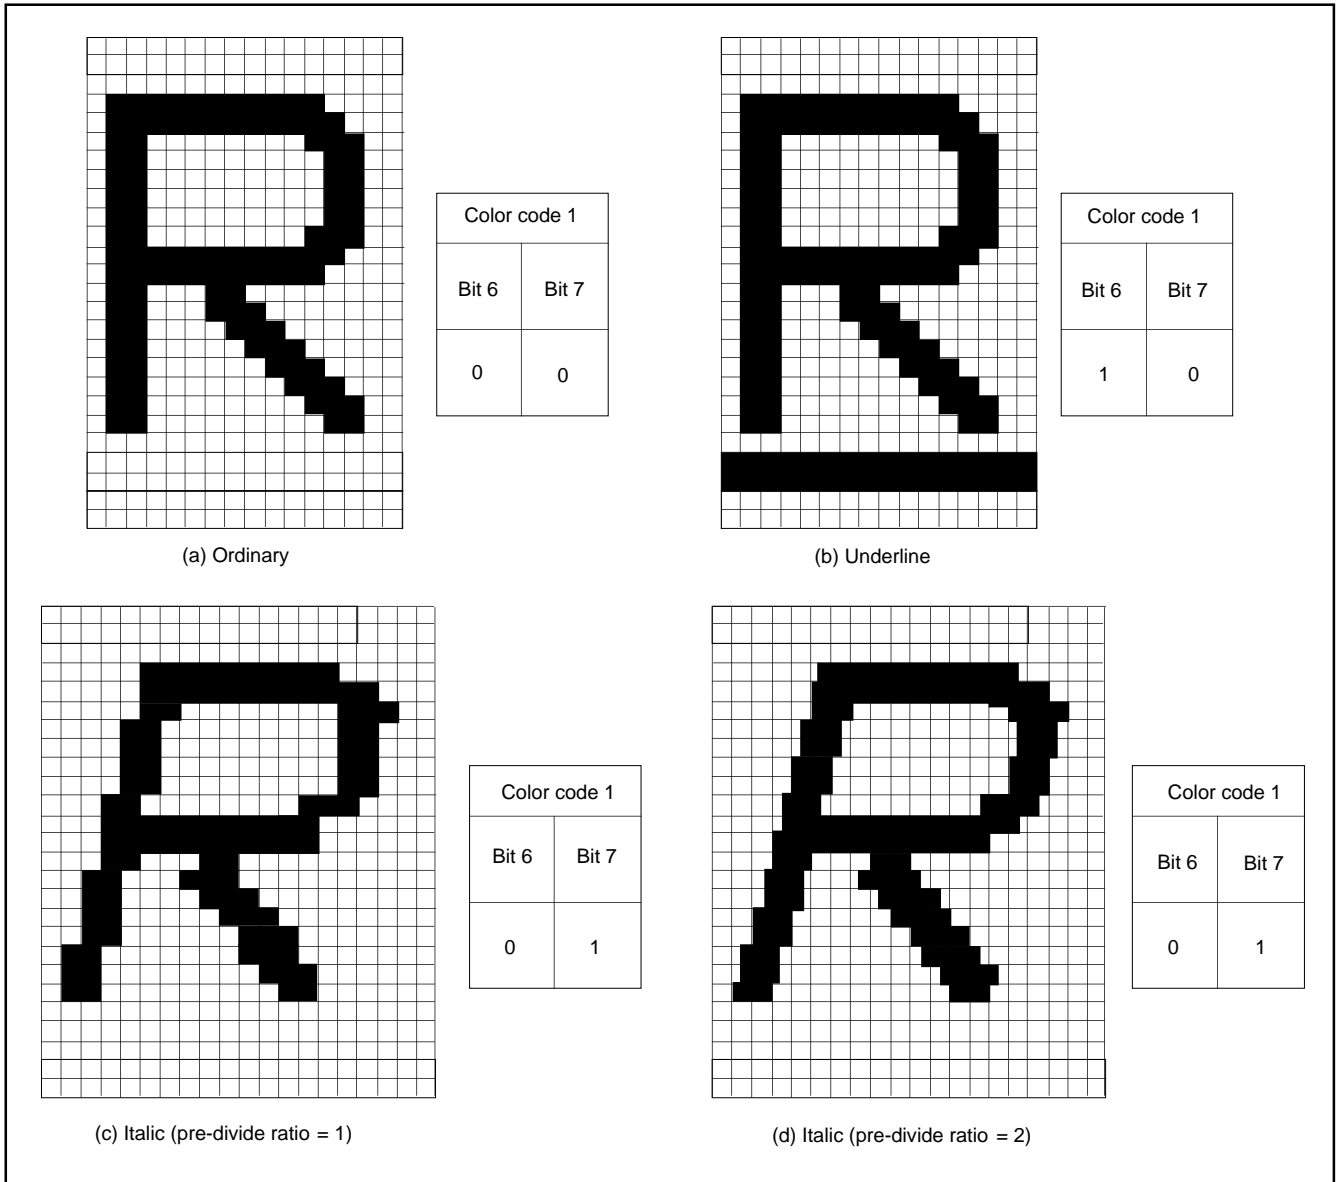

Fig. 84. Example of Attribute Display (in CC mode)
**2:** When the pre-divide ratio = 1, the italic character with slant of 1 dot 5 5 steps is displayed (refer to Figure 84 (c)). When the pre-divide ratio = 2, the italic character with slant of 1/2 dot 5 10 steps is displayed (refer to Figure 84 (d)).